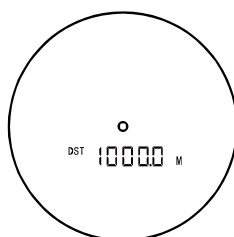

Figure 2
In the distance measurement mode, aim the device at your intended target and press the Power/measure button (1). The straight line distance to the target will be displayed (Fig. 2).